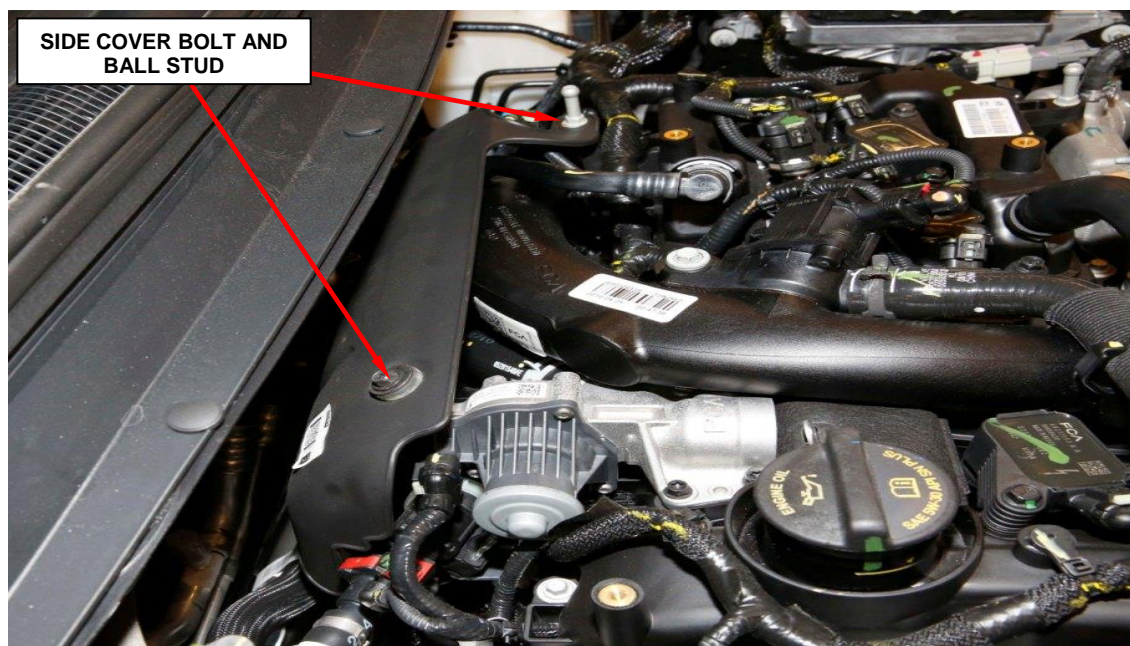

Figure 3 – Side Engine Cover Mounting
7. Remove the ball stud and bolt and disengage the side engine cover from the two lower rubber mounting grommets (Figure 3).